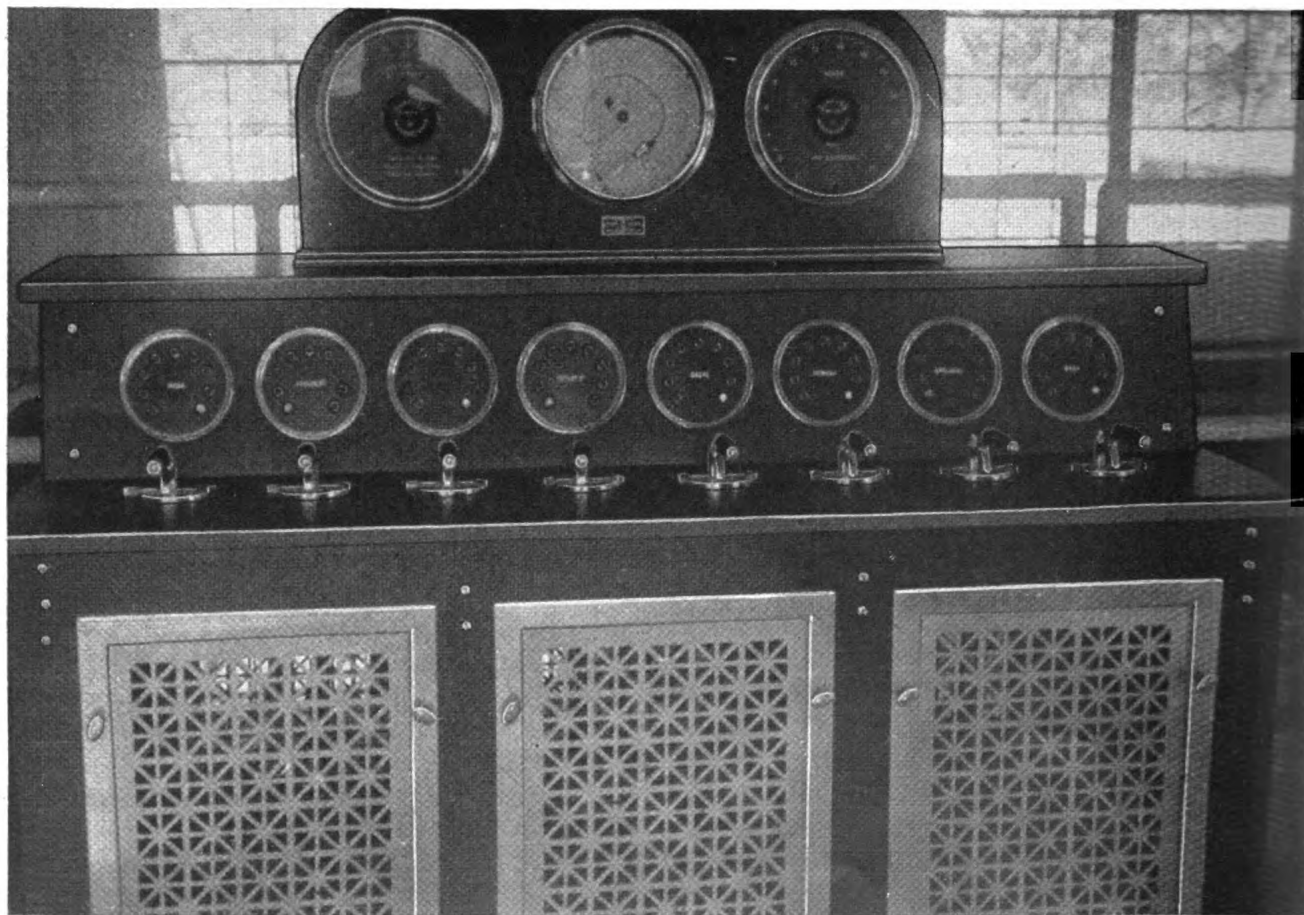

Figure 56. Filter operating table installation.
a. Clean Operating Tables and Panels (fig. 56). Scrub inside and out with soap and water or polish as necessary. Remove pens from recording instruments, wash out, and replace. If any ink is spilled, wash off immediately with water.